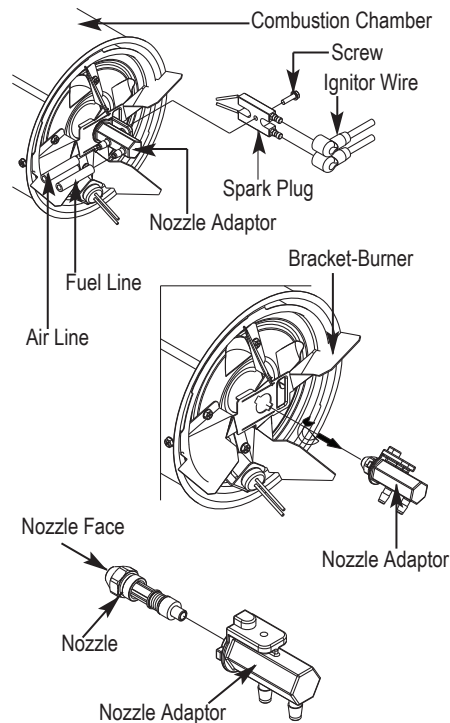

**Figure 12 – Nozzle Replacement For Models CP125CK and CP170CK**
- Turn nozzle adaptor 1/9 turn (40°) to counter clock wise and pull toward motor to remove. (See Figure 12)